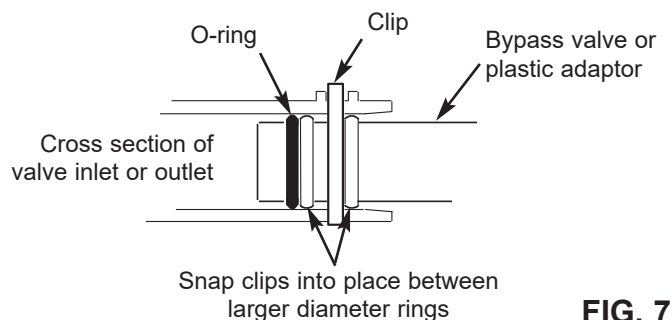

FIG. 7
- Snap the two large plastic clips in place on the inlet and outlet ports, from the top, down (See Figure 7). Be sure they snap into place. Pull on the bypass valve or plastic adaptors, to make sure they are held securely in place.